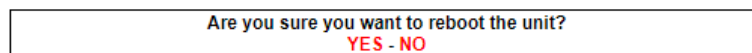

Figure 63. Configurator GUI (unit reboot dialog)
- The unit reboot dialog will be shown (Figure 63 (page 149)).